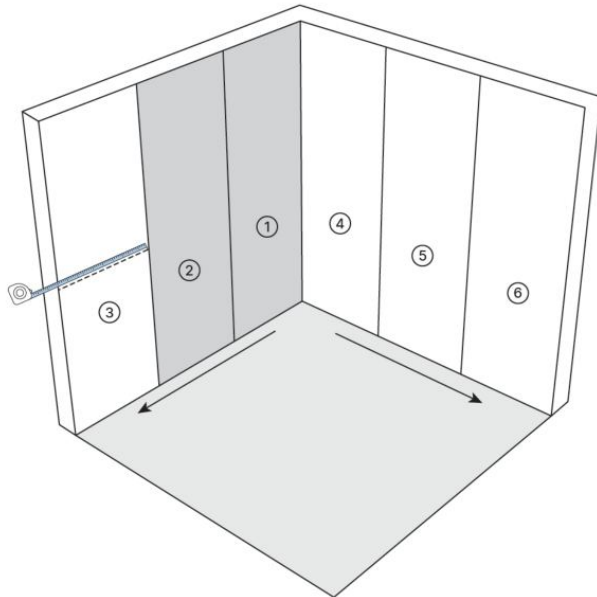

Fig.13
- As fig.13 in the layout diagram, panels 3 are the last two panels installed at the end of the wall segment. If the measured width of the end wall is less than 600 mm, panels 3 need to be cut to ensure proper installation.